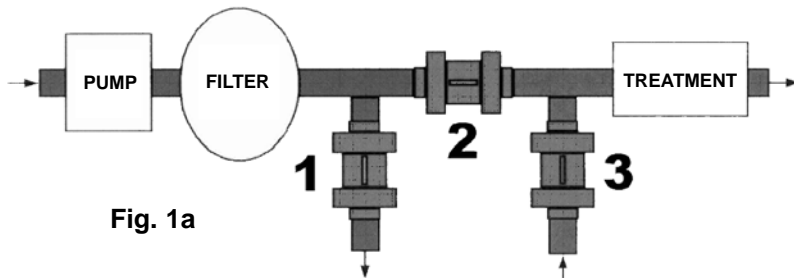

Fig. 1a
- 100% Open, ball-valve n°1 n°2 and n°3 (Fig.1a)
- If needed, refine the flow-rate with ball-valve n°3 (Fig.1a).
Isolate the pump of the main circuit by closing the 2 ball valves (by pass) **n°1 et n°3 (fig. 1a)** and open completely the ball valves **n°2 (fig. 1a)**